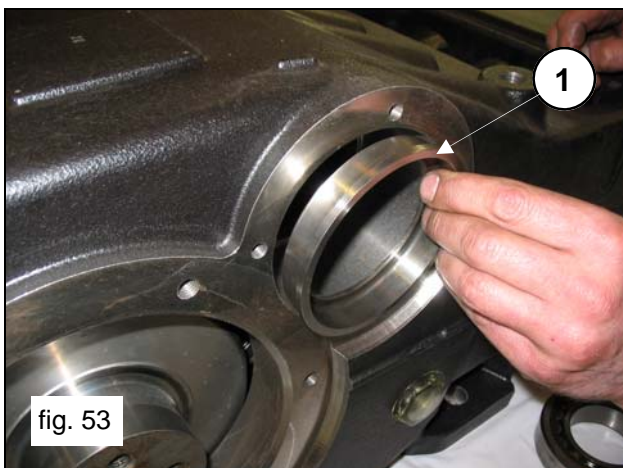
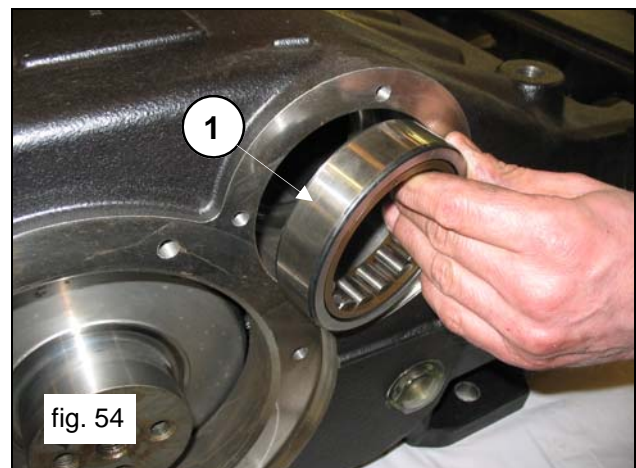

fig. 53
fig. 54
From one side of the casing, insert the bearing lubrication bush (pos. ①, fig.53) and an external bearing ring (pos. ①, fig.54) using a pad and a mallet or striking hammer.